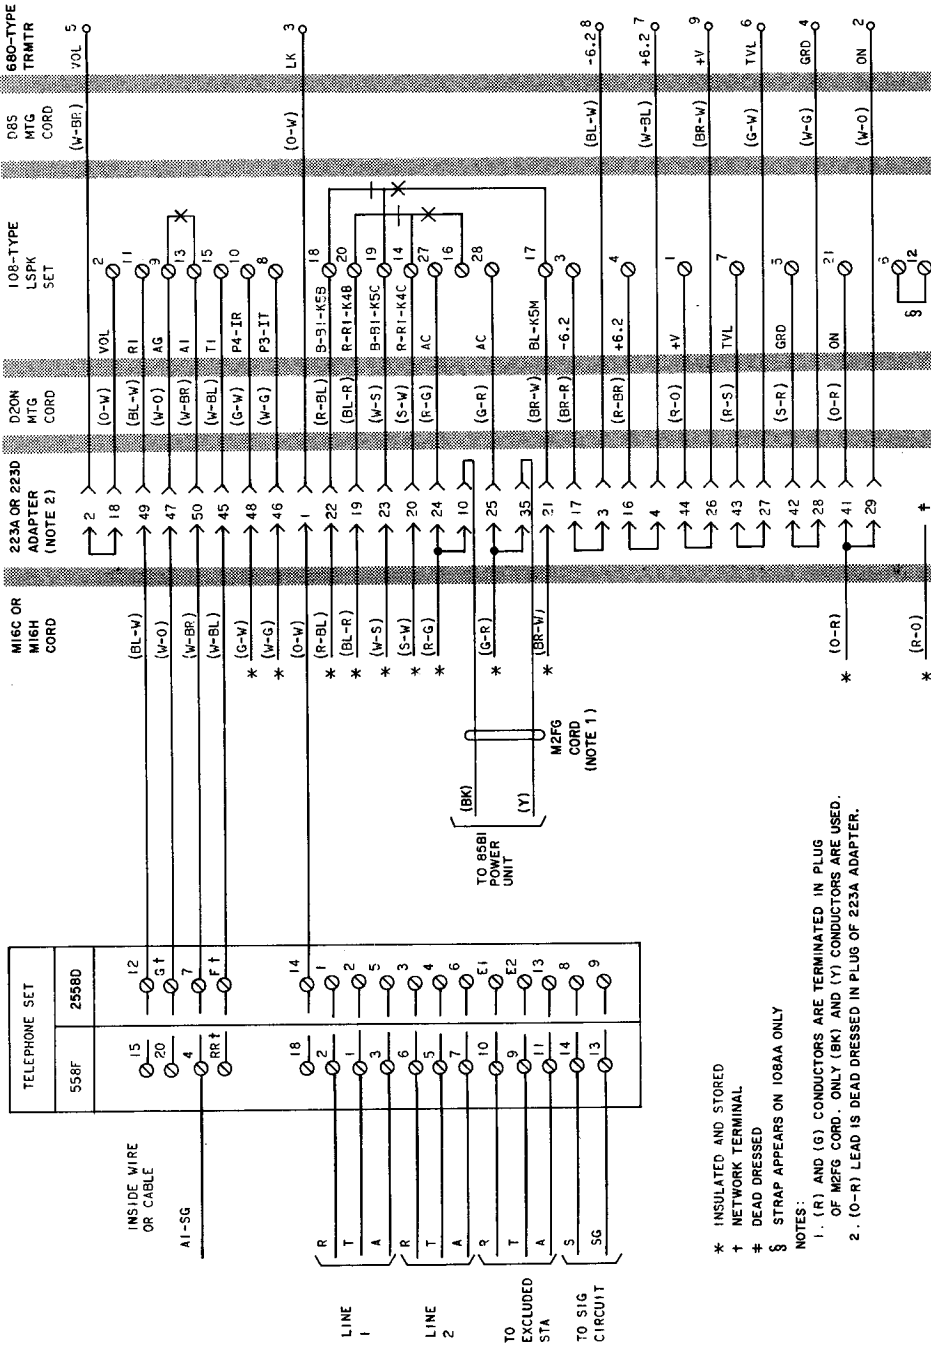
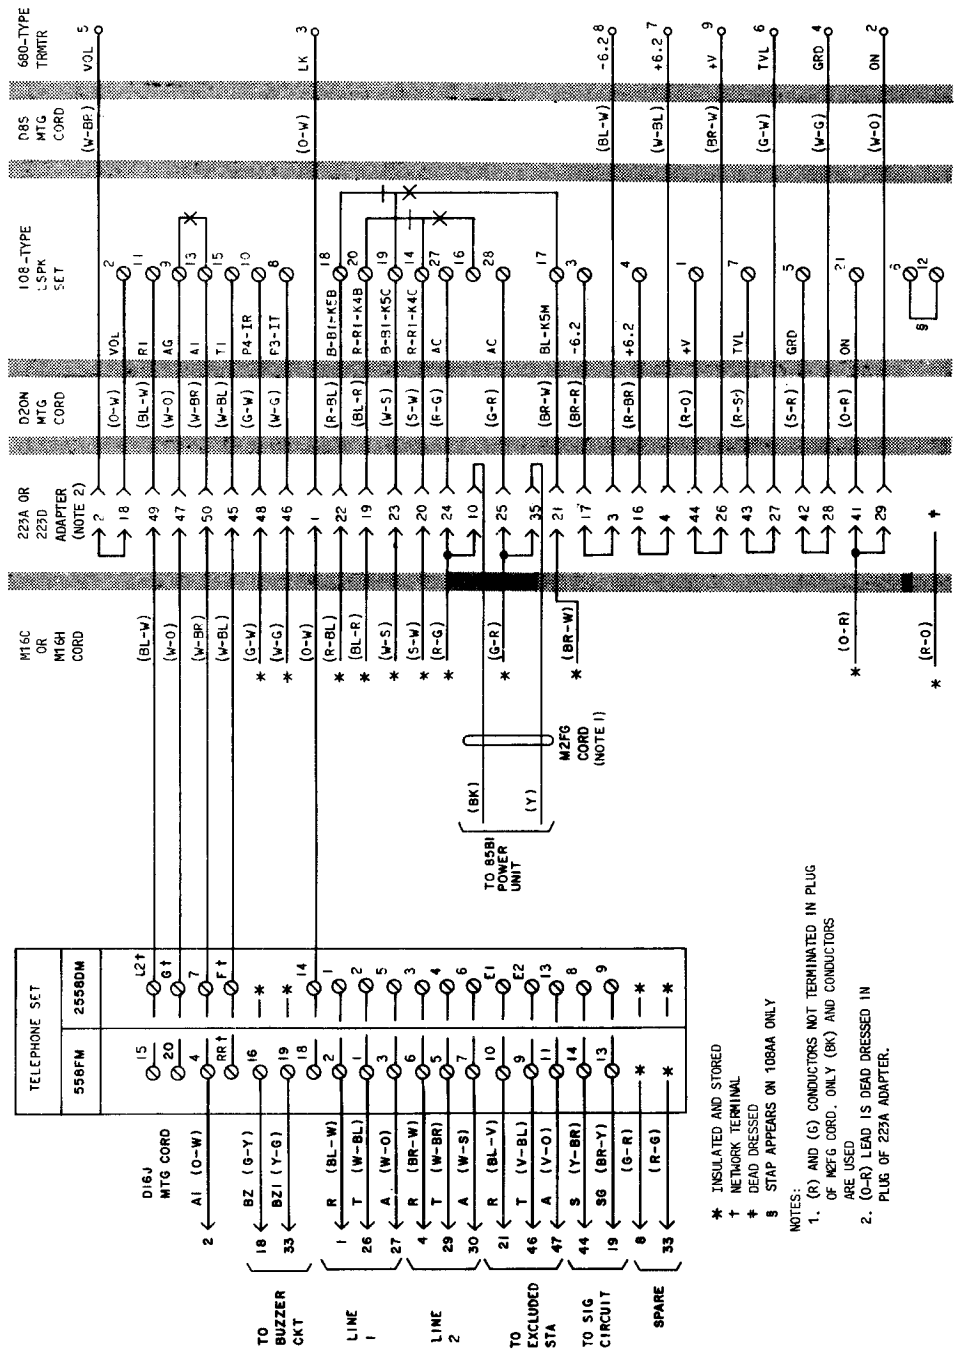

Fig. 4—Typical Grandfathered 4A Speakerphone System Arrangement, Connections to 558F and 2558D Telephone Sets
Fig. 5—Typical Grandfathered 4A Speakerphone System Arrangement, Connections to 558FM and 2558DM Telephone Sets†
2.04 Cords from the loudspeaker set, transmitter, and power unit are plugged into the adapter (Fig. 1B). Cover must be fastened securely to assure proper mating of connectors. The telephone set mounting cord is plugged into the 66E3-25 connecting block (Fig. 1B). Access to speakerphone leads is obtained through the M16C (MD) or M16H cord, either in set (Fig. 4) or at the connecting block (Fig. 5). At the 66E3-25 connecting block, 161A adapters must be used to connect the spade tips of the M16C or M16H cord. Install the adapters as outlined in Section 461-604-100.